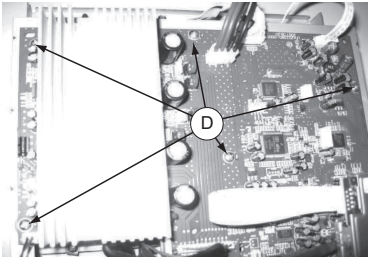

Figure 4
- 2) Loosen 5 screws "D" to remove the AMP Board as shown in figure 4.